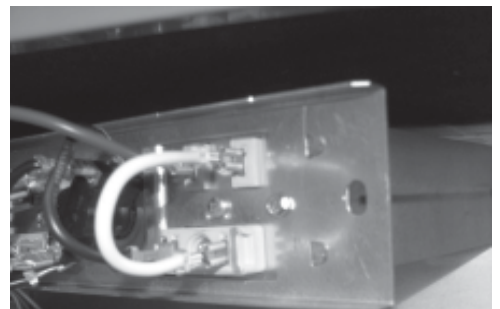

Fig. 3 - Heater insertion.
5. Position and slide heater assembly into blower section through the access opening (mounting position is important, check the label for correct position). Secure heater into place with screws removed from cover plate (see fig. 3).